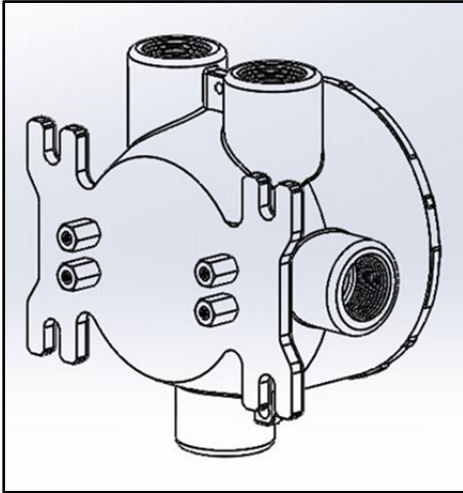

Figure 1
- (1) Attach the four 1/2" long standoffs from the hardware bag to the back of the Ultima X5000 via the four tapped holes, as shown in Figure 1. Be sure to tighten the standoffs completely to avoid loosening over time.